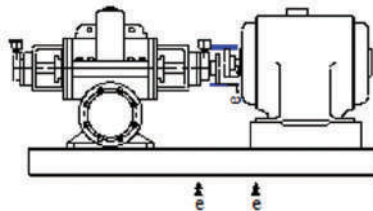
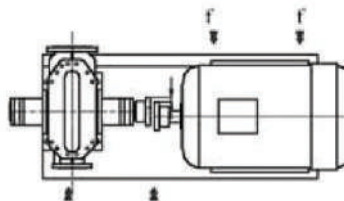

Figure 4: Parallel Axis Misalignment in Vertical Plane and Its Correction
Figure 6: Parallel Axis Misalignment in Horizontal Plane and Its Correction
1. Parallel Axis Misalignment (Figure 4-Figure 6)